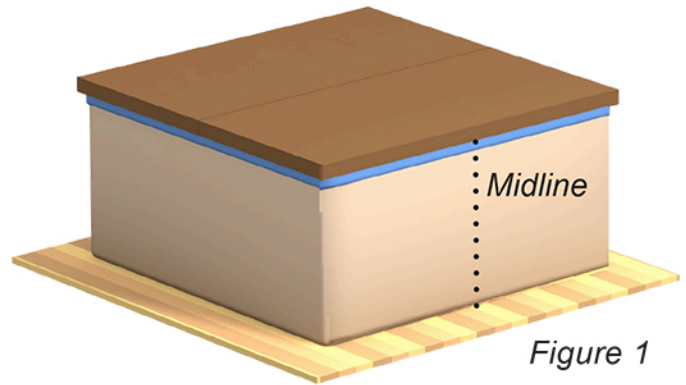
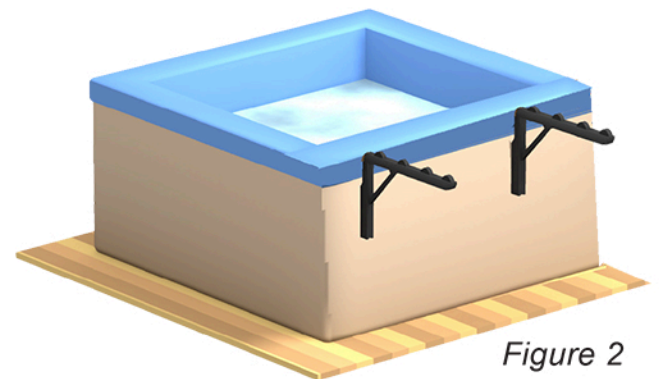

Figure 1
Figure 2
1 Position one **Roller Rack (A)** so it is halfway between the spa edge and the midline (*Figure 1*) and its top surface is flush with the top of the spa (*Figure 2*). Mark the position of the rack's 6 screw holes in the skirt. Repeat this procedure with the other **Roller Rack (A)** on the opposite side of the midline.
- 1 Lock each of the **Roller Racks** into position by rotating counterclockwise, then securing the bottom edge of the brace (*Figure 1*).
- 2 Flip one cover half over the other. (*Figure 2*)